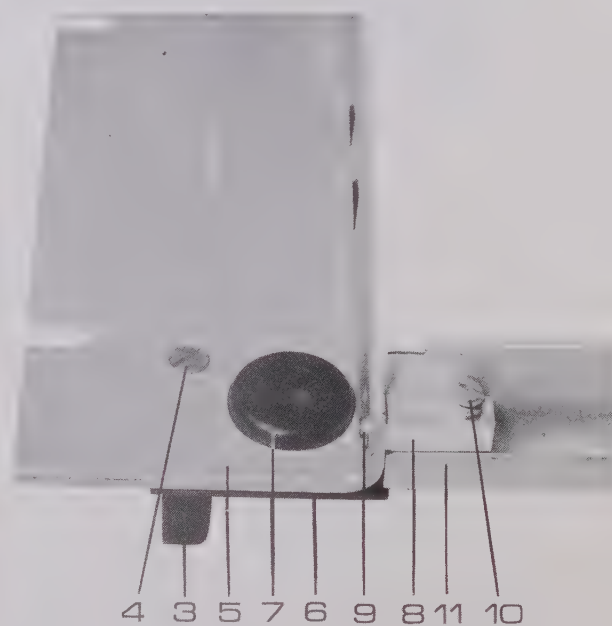

Fig.7.5 Rear View of Handle Assembly
2. Assemble the rack ear components, items 3 to 10, as shown in figs. 7.5 and 7.6. Note that, although both rack ears are identical, the trim strip fixing blocks are fitted so that a left and right pair result. Note also that the trim strip grip screws are fitted with the screw head to the rear.
4. Fit the trim strip, (item 11), around the trim strip block, with the slots outwards and the long flange upwards. Fit the other rack ear assembly to secure the trim strip.